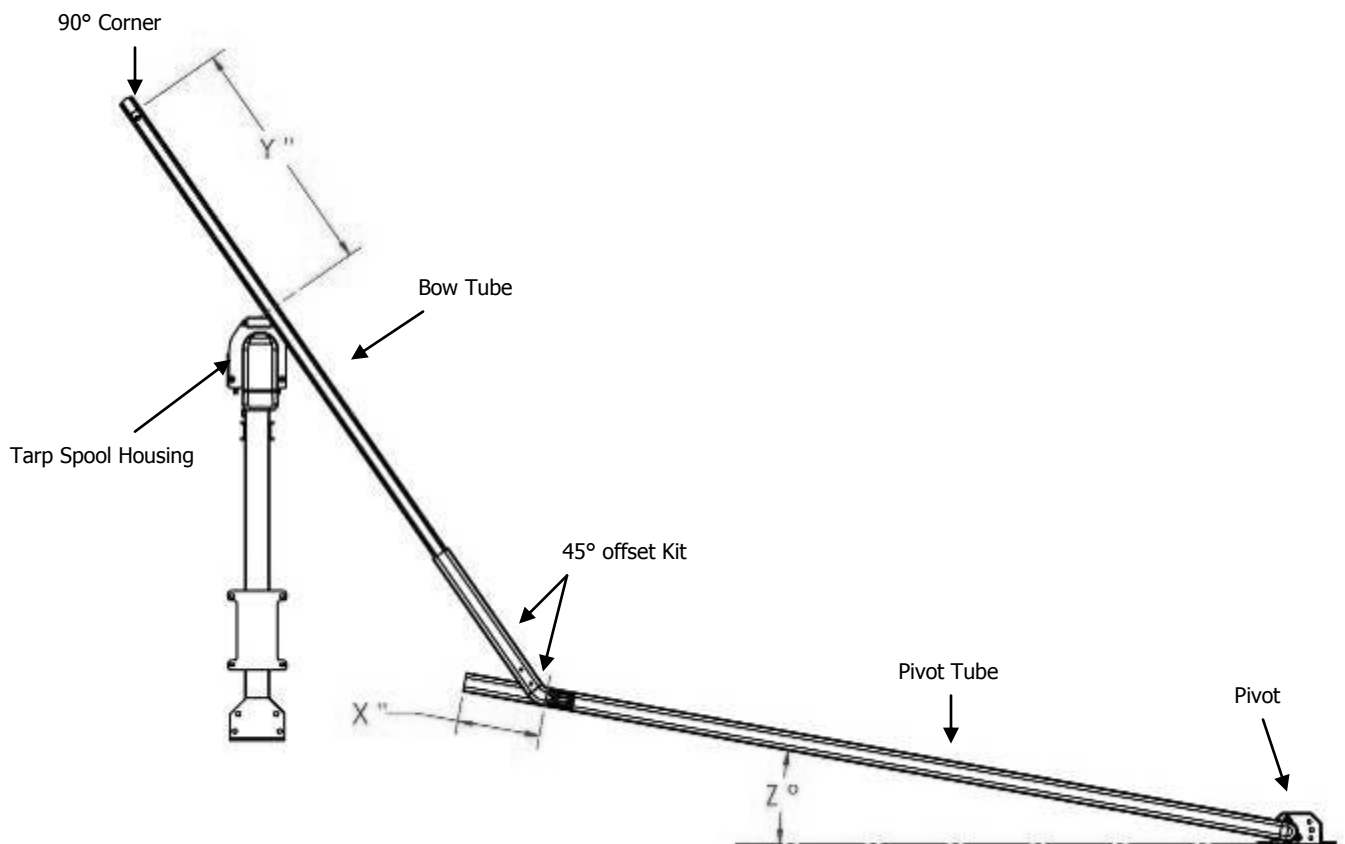

Fig. 3
Steps 3 – 9 refer to Fig. 3
- 5) Rotate the arm forward until it is in the desired location or angle from the frame rail and prop in this position (see "Z°" in Fig. 3).
- 8) With the upper arm assembly held in position mark the Pivot tube at the flare of the 45° elbow, illustrated by dimension "X" in Fig. 3.
- 9) Still with the upper arm assembly held in place measure from the center of the rubber pad on the tarp spool housing to the end of the bow tube, below the 90° corner. This is dimension "Y" in Fig. 3. Record this measurement.
- 11) Cut an amount equal to dimension "X" from Fig. 3 off both the driver and the passenger side pivot tubes.